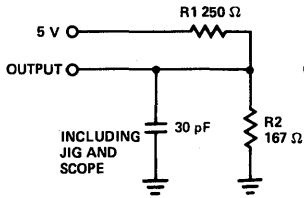

Figure 1a
7. Test conditions assume signal transition times of 5 ns or less, timing reference levels of 1.5V, output loading of the specified I_{O1}/I_{OH} and loads shown in Figure 1a, 1b.